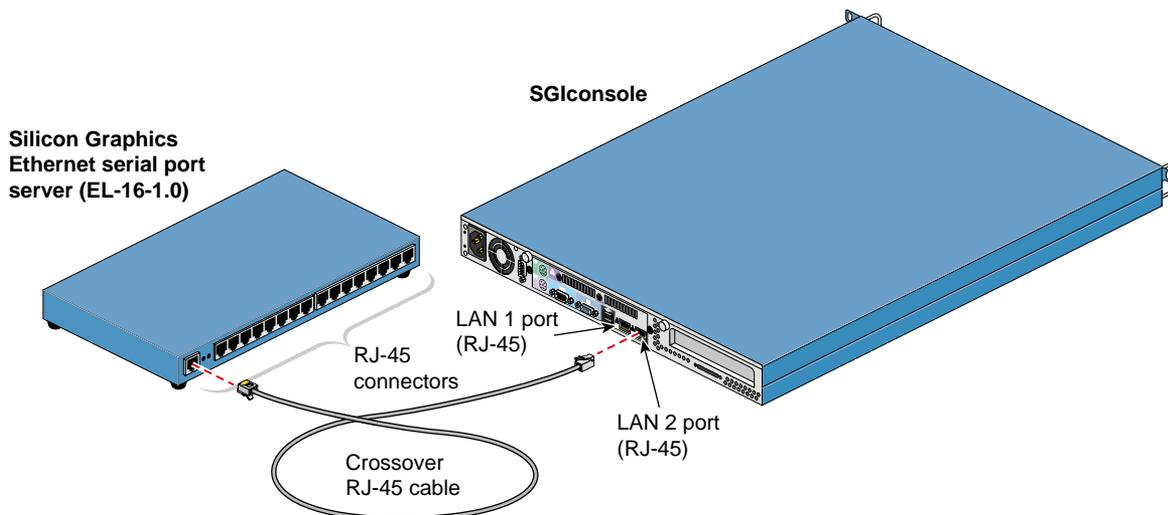

Figure 2-18 Connecting SGIconsole to the Silicon Graphics EL Serial Port Server
4. If you have not already done so, connect one end of the crossover RJ-45 Ethernet cable to the **LAN 2** port RJ-45 jack on your SGIconsole, and connect the other end to the leftmost RJ-45 jack on the Silicon Graphics EL serial port server. See Figure 2-18.